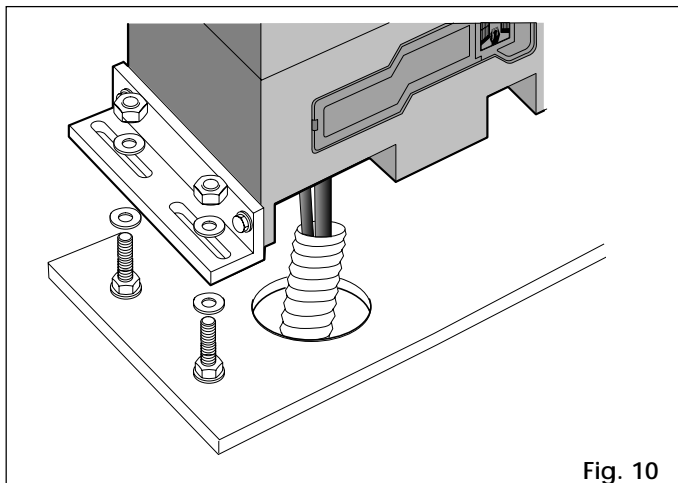

Fig. 10
- 3) Fix the operator to the base plate using the nuts and washers supplied (Fig. 10).